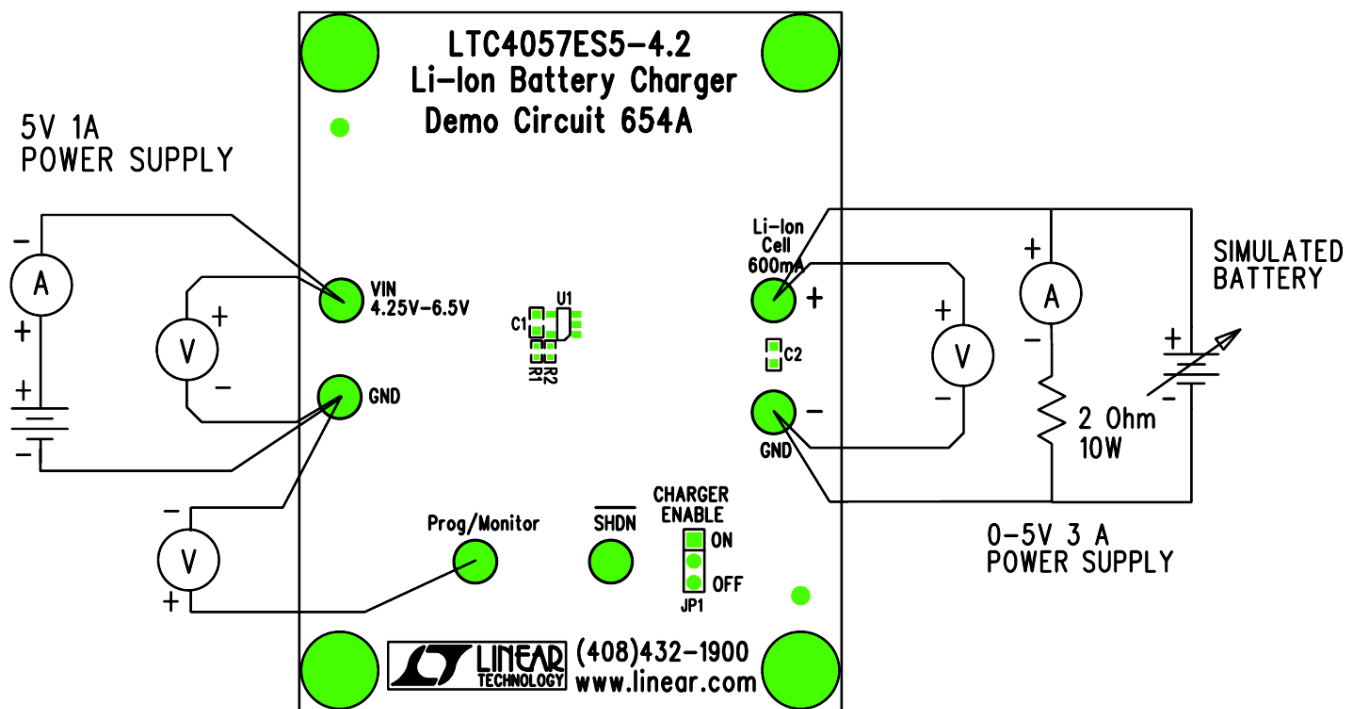

Figure 1. Proper Measurement Equipment Setup
Figure 1 for proper measurement equipment setup and follow the procedure below:
1. With power off, connect the input power supply, output load and meters as shown in Figure 1.